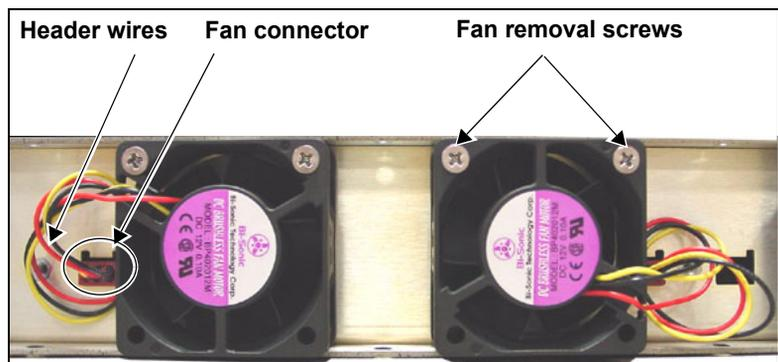

Figure C-38. Removing Header Wires from Fan Assembly Connector
4. Identify the fan you are replacing on the back side of the front panel, and then remove the corresponding header wires from the fan assembly connector. (See Figure C-38.)